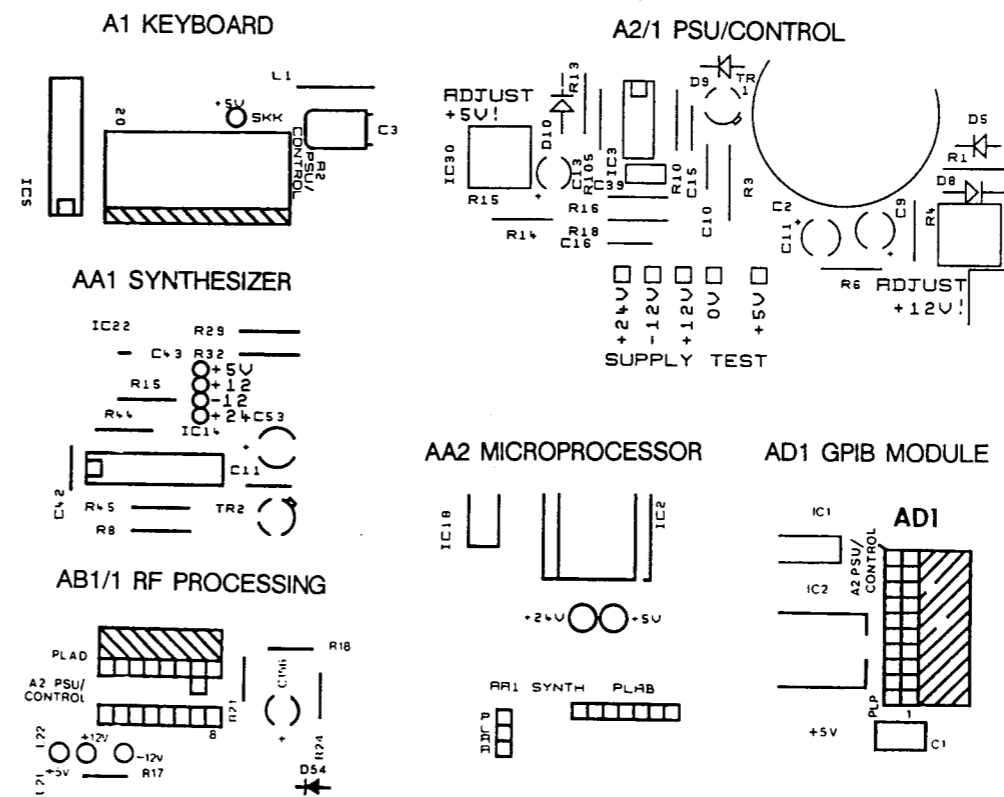

Fig. 5-14 Voltage test points
3. Easily accessible test points are provided on the boards to allow you to quickly confirm that voltage rails are correct. These are simply solder pads with a central hole surrounded by a white circle. The nominal voltage expected at that point is also indicated as shown in Fig. 5-14.